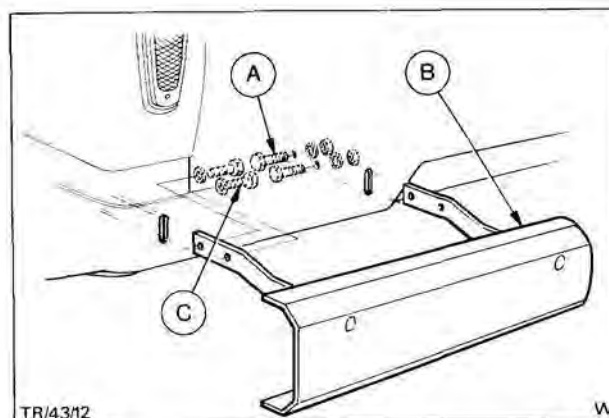

Fig. 9. Rear bumper mounting bracket assembly to body
6. Position mounting bars on bumper bar and secure with a nut, bolt, flat washer (2) and shakeproof washer assembly for each bar.
8. Insert mounting bars through elongated holes in back panel and secure bars to underbody with towing hook located on inboard bar, Fig. 9.